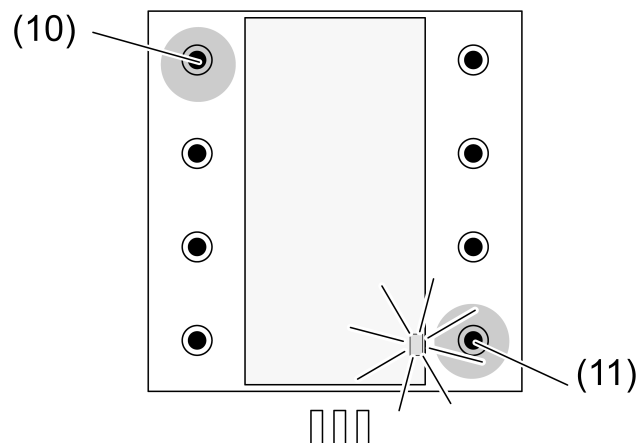

Figure 4: Activating programming mode for channel buttons
- Press the top left (10) and bottom right (11) buttons simultaneously for longer than 4 seconds (Figure 4).
- Press the top left (10) and bottom right (11) buttons simultaneously for longer than 20 seconds (Figure 4).